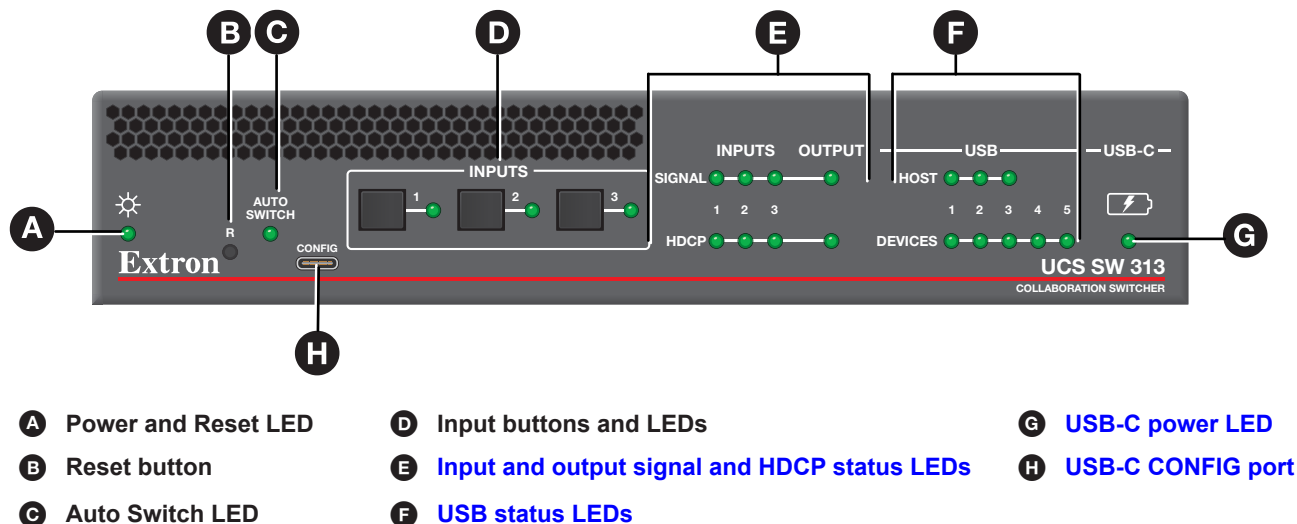

Figure 3. UCS SW 313 Front Panel
- **Product Configuration Software (PCS)** — Extron PCS is available at www.extron.com. Download and install the latest version to a PC connected to the switcher either via Ethernet or the front panel USB CONFIG port (see figure 3, **A**). For full instructions while PCS is running, press <F1> on the keyboard, click the ? button in PCS, or select the **Help File** option from the PCS Device Tab drop-down list to view the *UCS SW 313 Help File*.
- A Power and reset LED** — Lights when the unit has power. When the R (reset) button (see figure 3, **B**) is pressed and held, this LED blinks every 3 seconds to indicate the level of reset that is initiated if the button is released and momentarily pressed again at that point.
- E Input and output signal and HDCP status LEDs** (see figure 3 on page 5) — These stacked green LEDs light as follows: